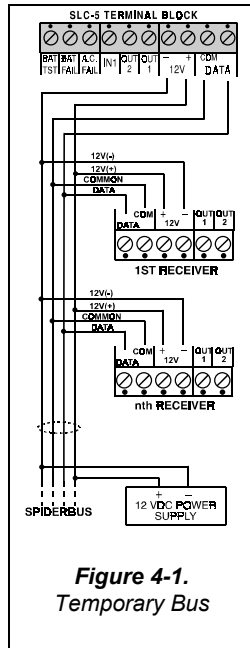

Figure 4-1. Temporary Bus
- Use the 4-lead cable to form a temporary bus that interconnects all receiver units and SLC-5, as shown in Fig. 4-1 (also refer to Para. 5-1, Steps A and B). The cable may be put down on the floor, following the shortest possible path.
- Power up the test equipment using the 12 VDC power supply or a 12 V battery (see Figure 4-1).